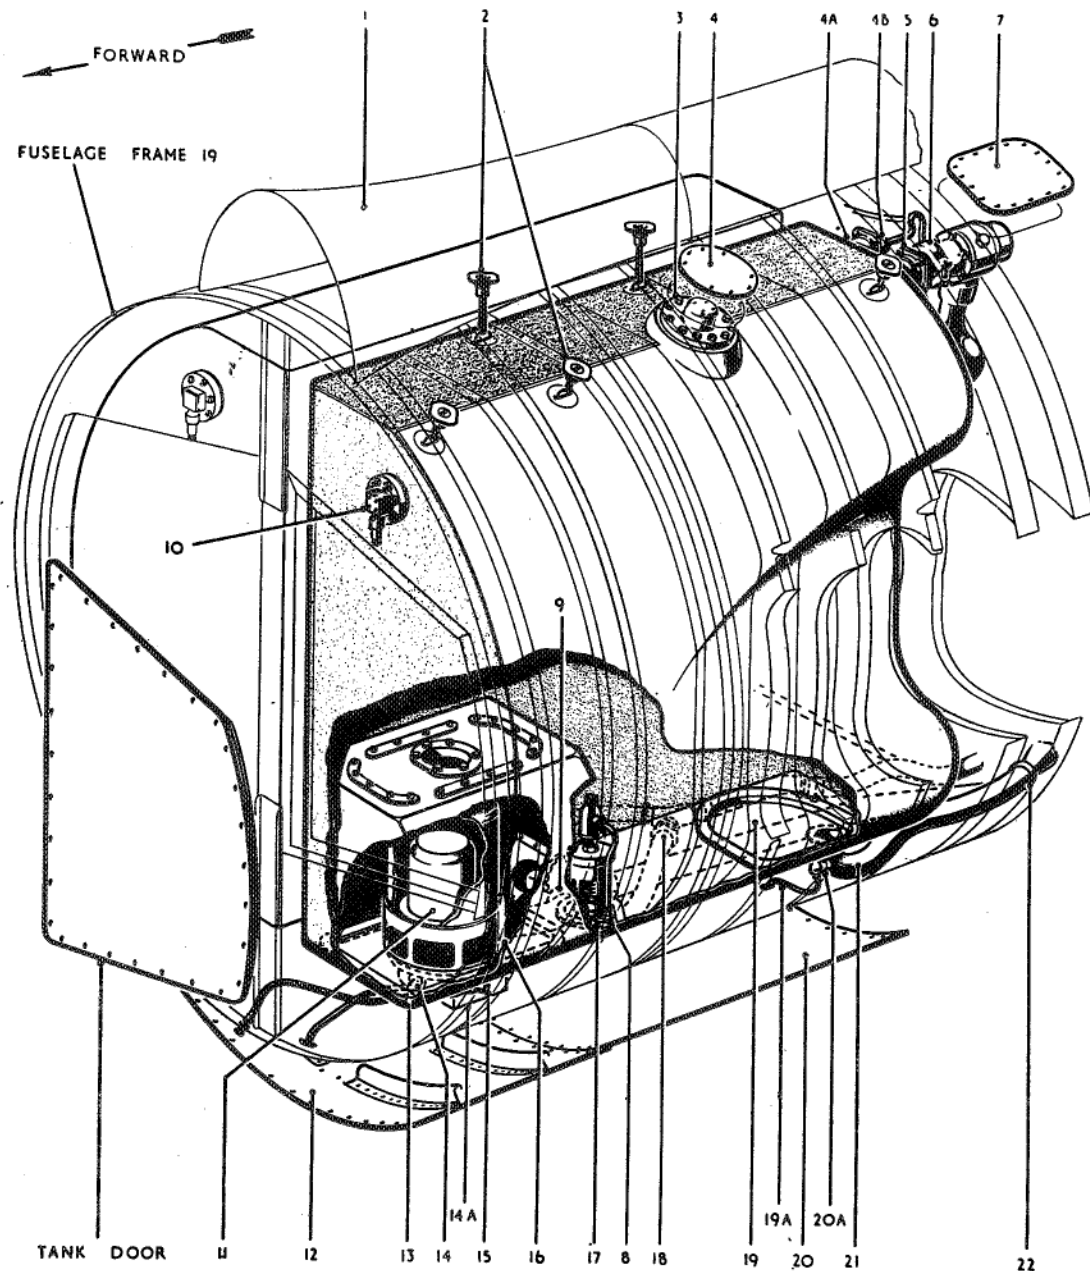
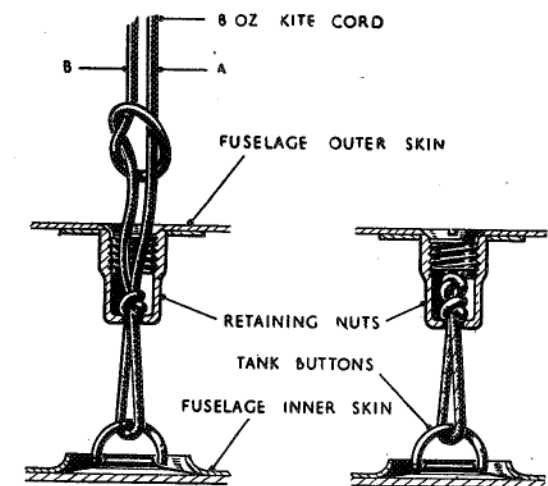

Fig. 7. Removal of front fuel tanks
Fig. 10. Securing the tank cords
#### Removal of front fuel tanks (fig. 7)
##### Removal of fuel contents gauge terminal box (fig. 7)
##### Removal of fuel level switch (fig. 7)
##### Removal of tank retaining cords (fig. 7)
##### Disconnection of suction and pressure relief valve (fig. 7)
##### Removal of vapour release valve (fig. 7)
- (1) Disconnect pipe at (4B).
- (2) Unscrew vapour release valve retaining nut.
- (3) Withdraw vapour release valve (4A).
- (4) Unscrew four bolts and remove the two halves of the locking plate on the rear face of the main spar.
*Removal of refuelling valve (fig. 7)*
- (1) Remove the terminal box cover on the refuelling valve (8) and disconnect the electrical cables.
- (2) Disconnect the fuel pipe at (17) and (18) and remove the pipe.
- (3) Take off the twelve nuts and locking lug.
- (4) Remove the valve and sealing ring. (While on the same location, remove the four nuts, distance pieces and washers and the two countersunk screws attaching the support plate to the tank skin and remove the support plate. Remove the gun heating pipe from under the front port tank. Unclip and spread apart, where necessary, electrical cables running along the fuselage under the tank).
*Removal of booster pump and inverted flight valve (fig. 7)*
- (1) Disconnect the electrical lead (15) on the booster pump and inverted flight valve installation (11).
- (2) Disconnect the water sediment drain at (13) and the fuel gland drain at (14).
- (3) Disconnect the fuel outlet pipe at (16) on the pump and at the non-return valve (9) and remove the pipe.
- (4) On the port side disconnect the leads from the suppressor box (14A). Remove the suppressor box by removing the four nuts and bolts. Remove the forward support bracket for the suppressor box by unscrewing the two bolts.
- (5) Take off the thirty four nuts attaching the booster pump and inverted flight valve installation to the support plate and tank, and remove the pump and valve unit (11). (While on the same location, remove the four countersunk screws attaching the tank and sealing washer to the support plate).
*Removal of transfer pipe cover plate and tank (fig. 7)*
- (1) Remove the screws from the five tank retaining nuts.
- (2) Procure about 40 yards of 8 oz. kite cord (Stores Ref. 32A/107), cutting the cord into five lengths of about 8 yards.
- (3) Thread the kite cord through the nuts into the tank bay and out through the tank door in frame 19.
- (4) Pass the cords through the buttons on top of the tank (fig. 7, item 2, and fig. 10), form each cord into a loop about 12 in. long and securely whip end.
- (5) Carefully fold the tank and push it into the tank bay. Pull all cords until the tank is held against the tank bay skin by the cords and the loops appear through the tank retaining nuts.
- (6) Cut the cords below the whipping and tie one cord A round the other B in a slip knot (fig. 10) and pull down into the retaining nut. Tie another slip knot, cord B round cord A this time, and work down into the retaining nut as far as possible. Cut both ends of the cord at outer skin level.
- (7) Replace the screws in the retaining nuts and lock by peening the skin into the slot.
- (5) Position the tank adjacent to the assembly hole in the structure and insert the tank.